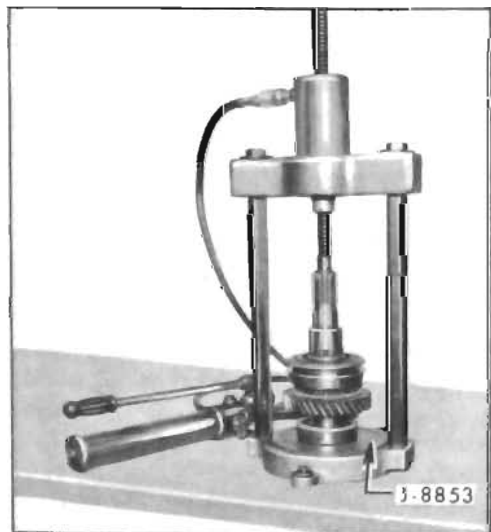

Figure 4-57—Installing Rear Bearing
4. Using J-8853, press on the rear bearing with the snap ring groove toward the front of the transmission (see Figure 4-57).